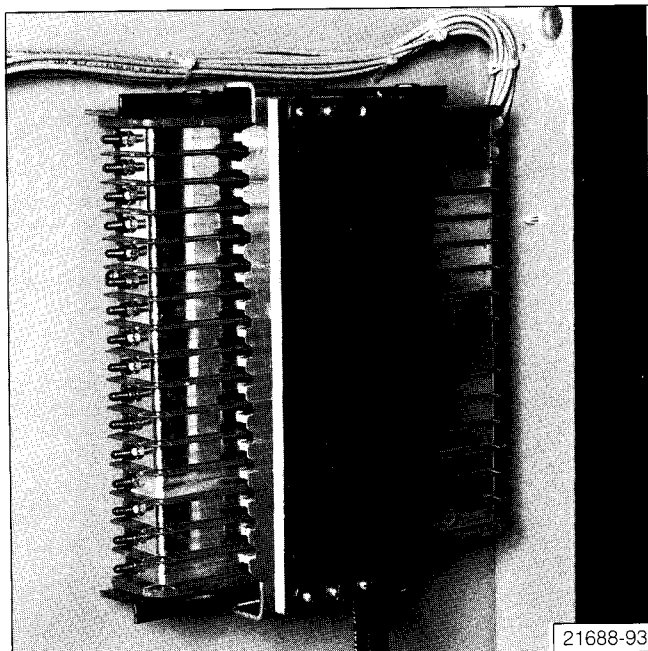

Figure 8: Split Plug Jumper Connected to Switchgear.
3. Install the switchgear end of the plug jumper shown in **Figure 8** to the secondary disconnect block inside the switchgear cubicle. The jumper slides into place. The plug jumper interconnects all control power and signal leads (e.g., remote trip and close contacts) between the switchgear and the circuit breaker.